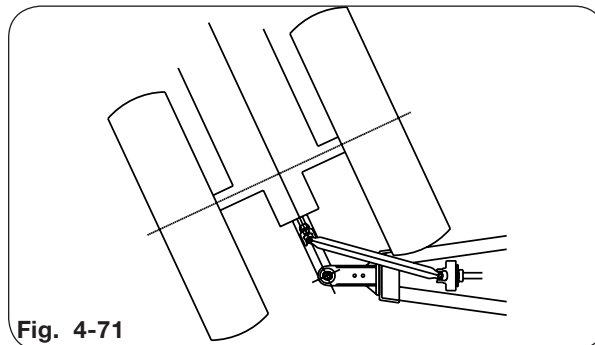

Fig. 4-71
6. Position the tractor to obtain the tightest turning angle, relative to the cart (Fig. 4-71).